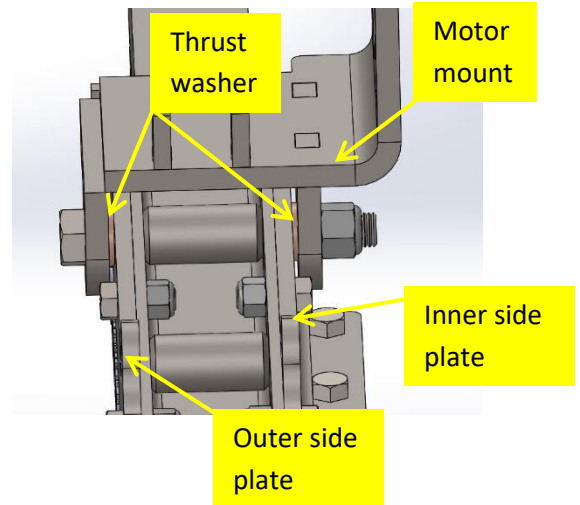

Figure 14
15. Thread the $\frac{3}{4}$ x 6 bolt (**ITEM 9**) through the right side of the motor mount (**ITEM 4**). Thread one of the bronze thrust washers (**ITEM 5**) onto the bolt. Align and thread the bolt through the rear hole of the outer side plate with the thrust washer between the plate and the motor mount. Before going through to the other side, install the other bronze thrust washer between the inner side plate and motor mount. Finish threading the bolt through to the outside of the motor mount and install the $\frac{3}{4}$ " nyloc nut (**ITEM 10**) and tighten. **Figures 14 & 15**